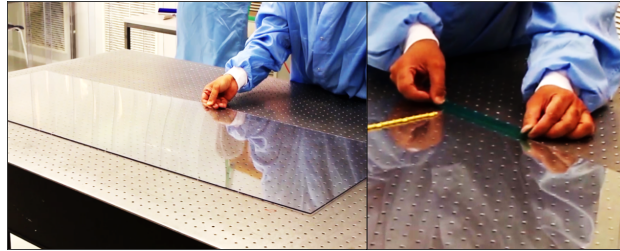

Figure 50: Preparing the assembly baseplate.
Step 1: Place the Plexiglas baseplate on the assembly table and fix it with tape (Fig. 50).